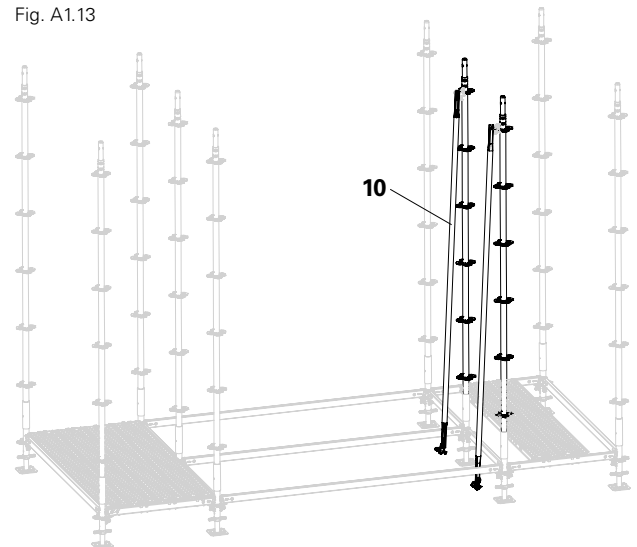

Fig. A1.14
2. Fit Node Braces UBK (**10**) into the top rosettes of the last Standards UVR 300. Insert Standards UVR 300. (Fig. A1.14)